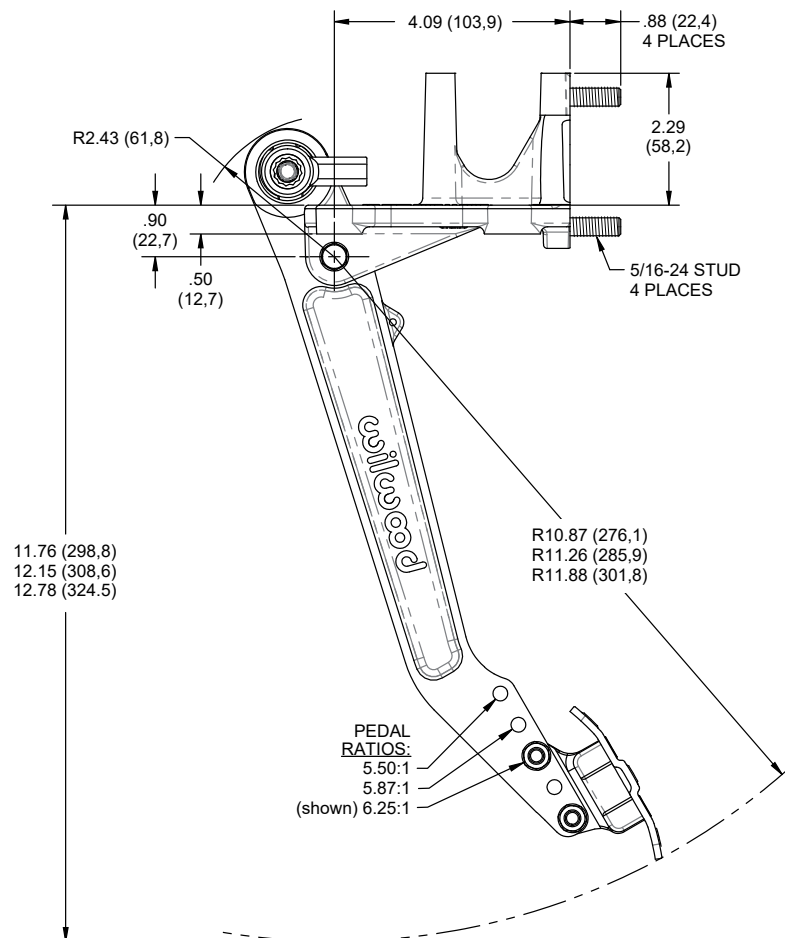

Figure 1a. Reverse Swing Mount Single Pedal Assembly, Physical Dimensions, 5.50:1 to 6.25:1 Ratio (P/N 340-16388)
•Wilwood's reverse swing mount single pedal assembly must be mounted using the four .33" diameter outboard tab mounting holes as shown in Figures 1a & 1b. Attach the pedal assembly to two sturdy beams or plates with four 5/16" bolts. Pedal assembly must be rigidly attached to frame and not deflect under heavy pedal forces. **NOTE:** Pedal must be free from obstructions over the entire range of motion. Allow enough space so Tru-Bar balance bar adjustments can be made and master cylinders are accessible.